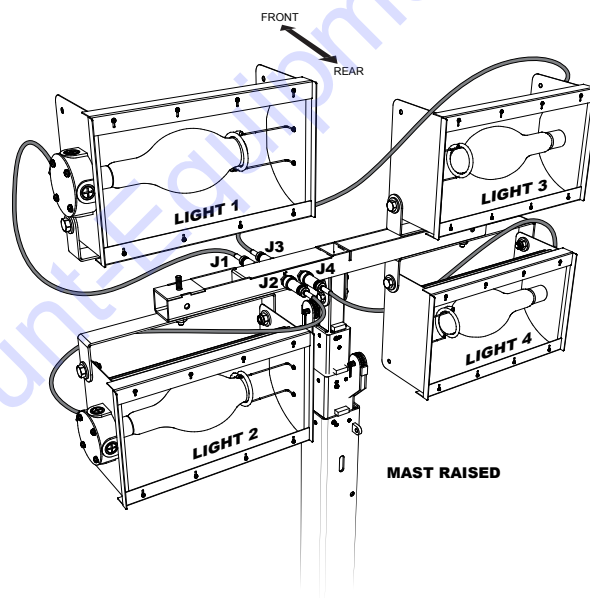

Figure 15. Light Power Cable Connections
4. Align the key tab (B) on the male connector with the slot or key (A) on the female connector and press together until seated. Connect the light power cables to the T-bar as referenced in Table 7 and Figure 15.
5. Secure all cable connectors by screwing the knurled locking nut of the male connector to the threaded portion of the female connector to ensure good contact between the two connectors. See Figure 15.